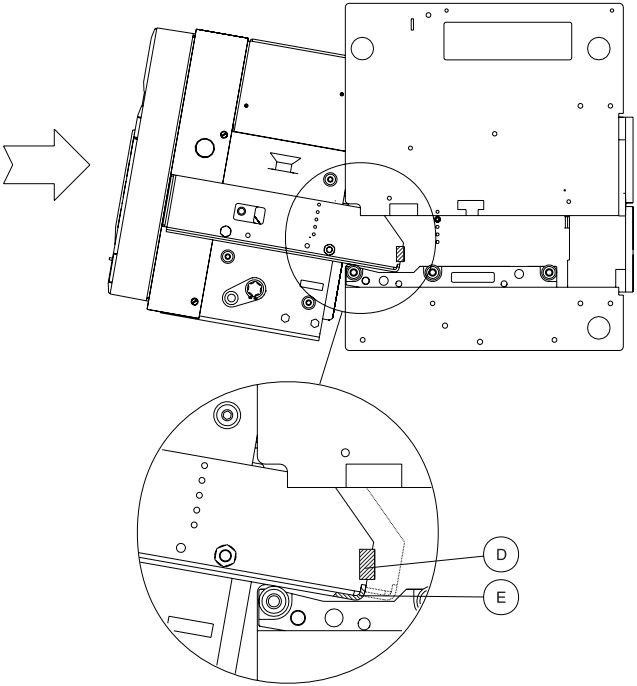

Fig. 32
Lift the moving part as shown in section (3) and fit it into the guides of the fixed part, tilting it as shown in figure 32.